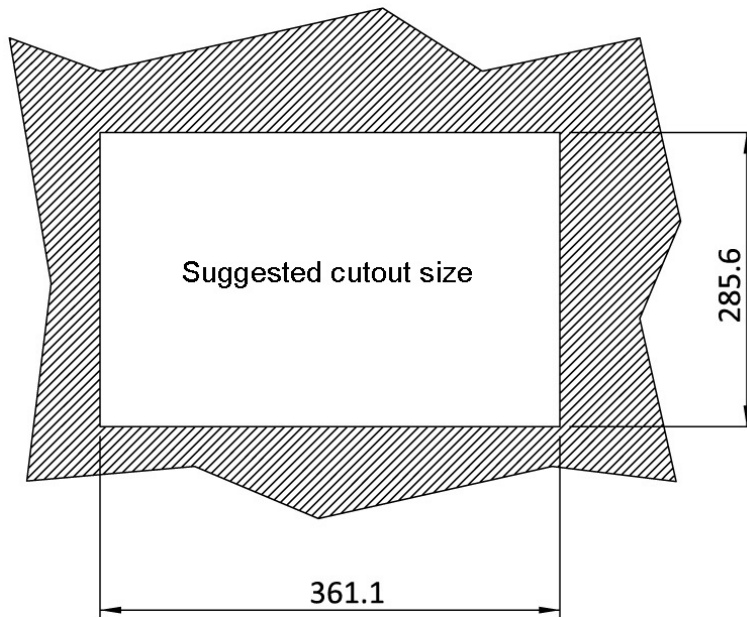
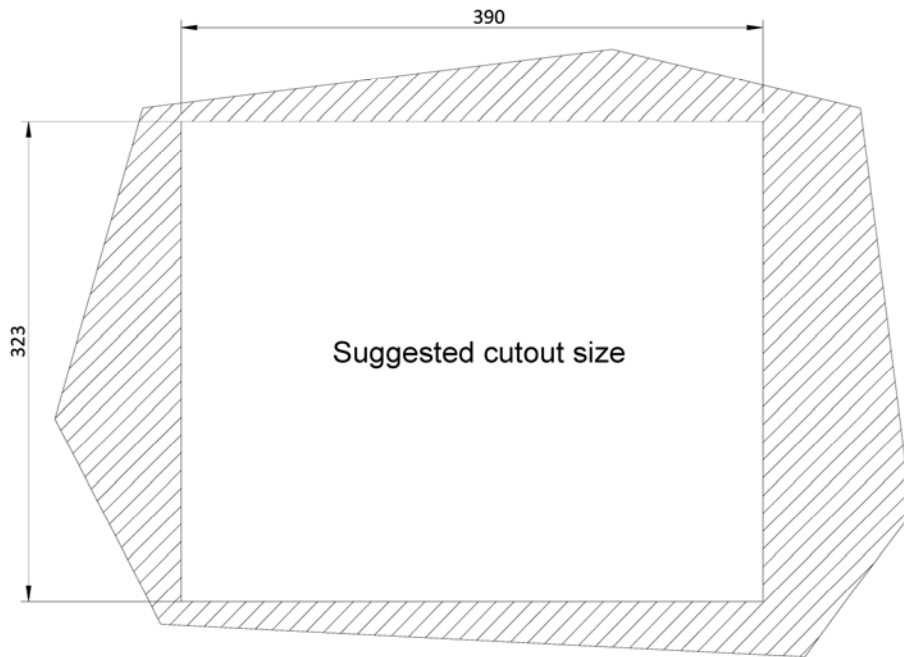
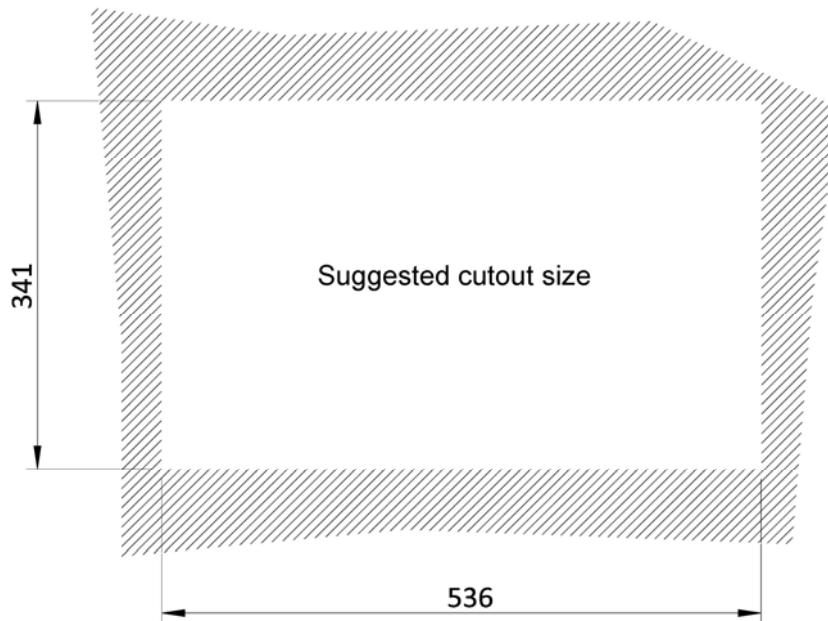
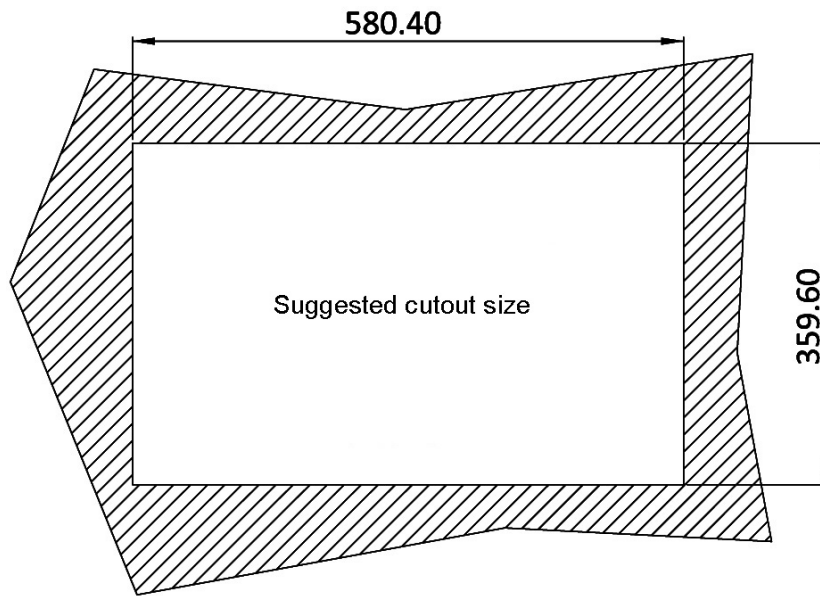

Figure 3-23: PPC-F15A-H81 Panel Cutout Dimensions
Figure 3-24: PPC-F17A-H81 Panel Cutout Dimensions
Figure 3-25: PPC-F22A-H81 Panel Cutout Dimensions
Figure 3-26: PPC-F24A-H81 Panel Cutout Dimensions
- Step 3:** Cut out a section of the panel that corresponds to the rear panel dimensions of the PPC-FxxA-H81. The recommended cutout sizes are shown below (Figure 3-23, Figure 3-24, Figure 3-25 and Figure 3-26).